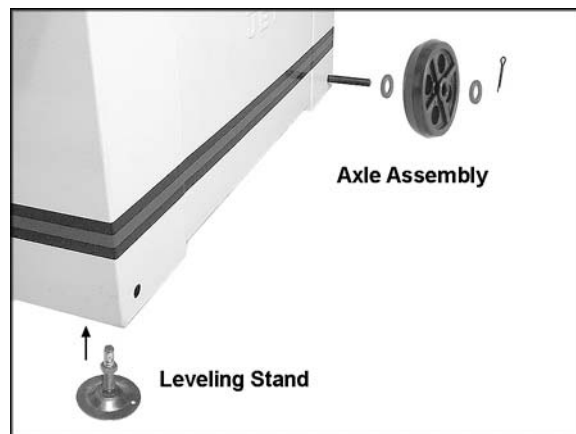

Figure 2
2. Insert the axle through the holes at the right end of the band saw cabinet (*opposite* the end where the lifting handle is mounted). See Figure 2.
4. Install the two leveling stands at the left end of the band saw (the end where the lifting handle is mounted). See Figure 2. Screw the leveling stand into the hole beneath the band saw cabinet, and tighten the top hex nut against the bottom of the cabinet.